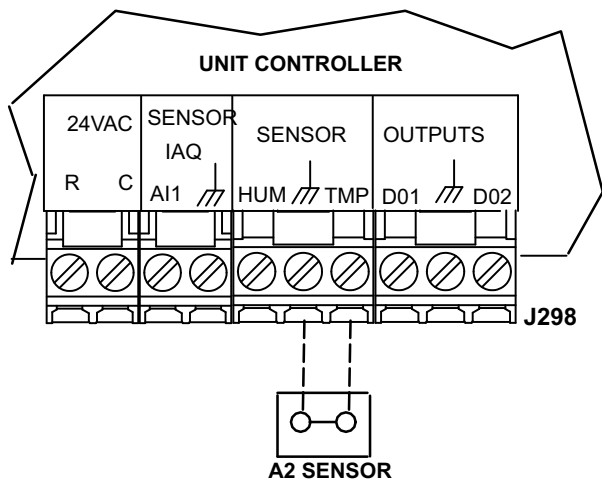

FIGURE 16
The Unit Controller will operate heating and cooling based on the Unit Controller internal setpoints and the temperature from the A2 zone sensor. An optional Network Control Panel (NCP) can also be used to provide setpoints. A thermostat or return air sensor can be used as a back-up mode. Make zone sensor wiring connections as shown in figure 16.
- 2- Make wiring connections as shown in figure 15 for Thermostat Mode or figure 16 for Zone Sensor Mode. In addition, connect either a humidity sensor or a dehumidification input. See figure 17 or 19 for humidity sensor wiring or figure 18 for dehumidification input wiring.